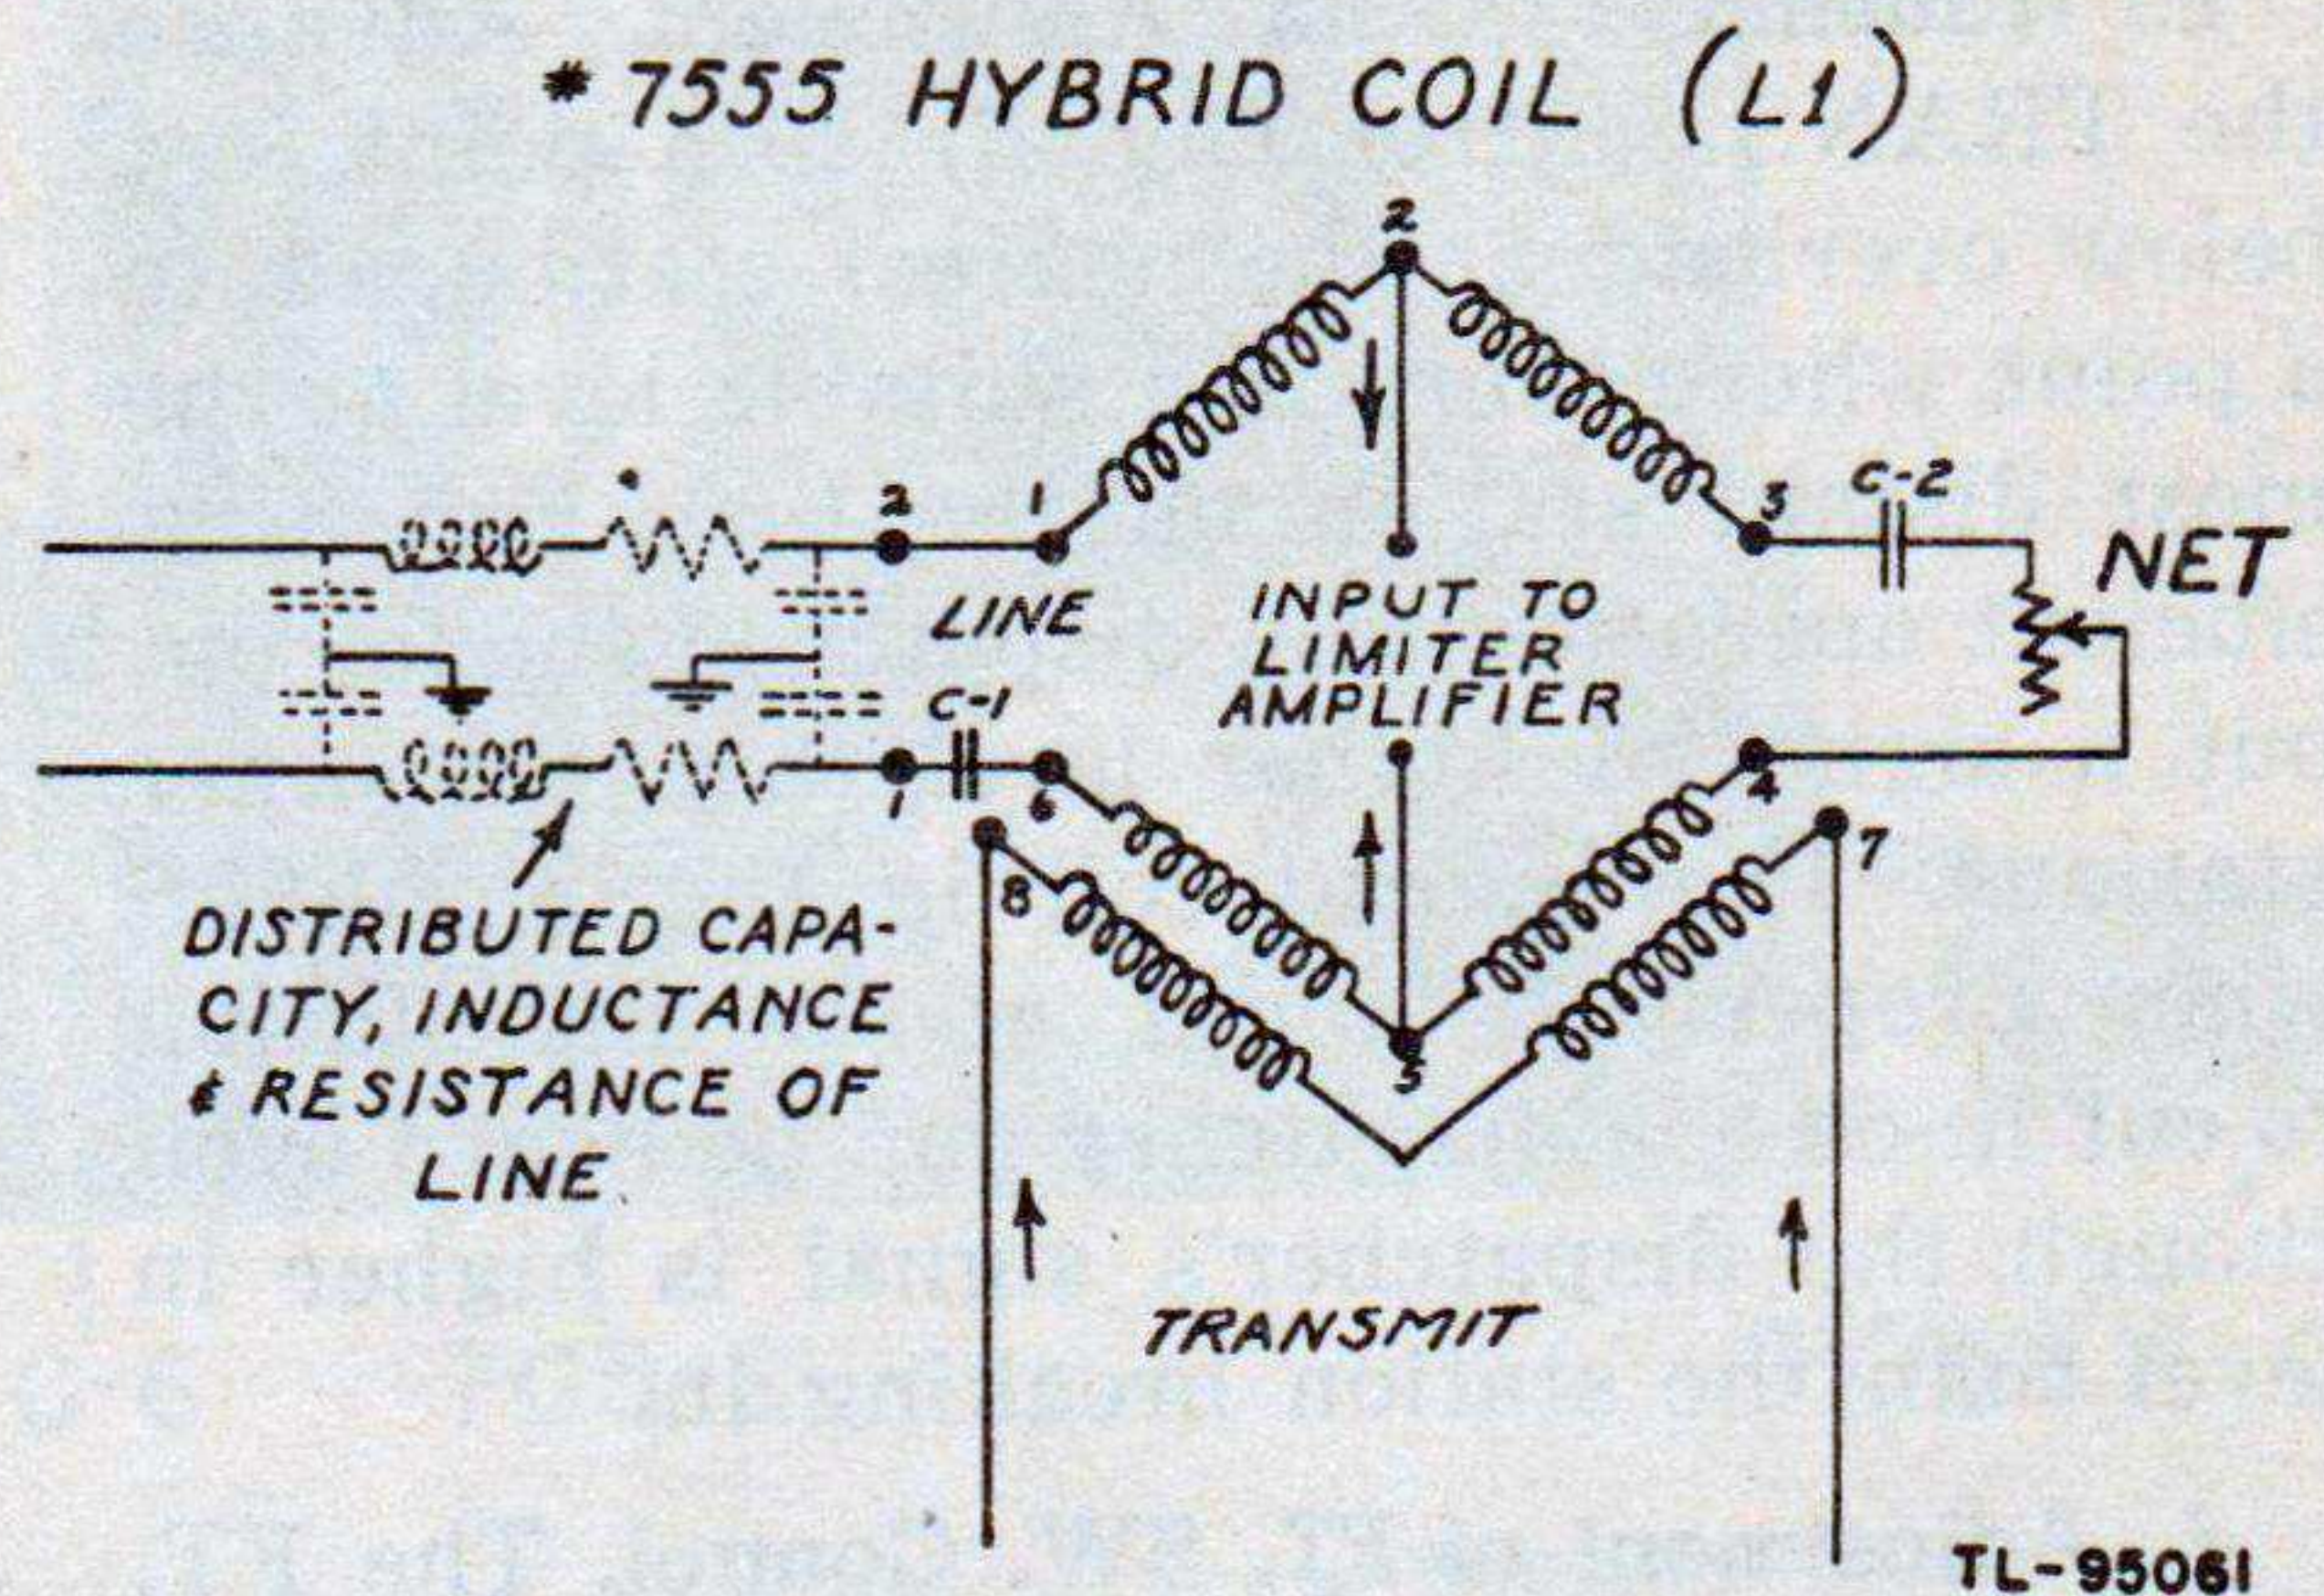

Figure 11. Hybrid coil, circuit diagram.
(1) This is made possible by the use of a hybrid coil input which electrically separates the incoming telephone line signal from the outgoing amplifier signal. This permits simultaneous two-way communication without the use of relays or other mechanical devices. By balancing the hybrid coil to the particular telephone line being used, it is possible for the dispatcher to be transmitting at a signal level + 10 db, 50 milliwatts, and simultaneously have a -30 db, 0.005 milliwatt, signal level input received and amplified to a satisfactory volume. The volume is maintained to a satisfactory level by proper adjustment of the FT. SW. control. The FT. SW. control places an adjustable resistor in shunt with the speaker. A proper setting for the FT. SW. control must be selected inasmuch as a too great attenuation of output signal level will result in insufficient output from the loudspeaker. If the FT. SW. control is set at 9.5, the amplifier signal output is completely shorted out, and no signal is heard in the loudspeaker. However, if the control is set near 5, sufficient volume is developed in the speaker to attract the dispatcher's attention.
(2) The hybrid coil, when terminated to the line and to the LINE NET control, is a bridge circuit. Figure 11 shows the actual electrical circuit of this coil when it is terminated in this manner. It can be seen that one half of the line forms part of one element of the bridge, while the other half of the line comprises a part of another element of the bridge. Thus, by means of the bridge, actual measurement to the electrical center point of the line can be made. Thus, if the
(a) The first case is when a signal from the line appears across terminals 1 and 6 of the hybrid coil (fig. 11). Assuming that the LINE NET control is adjusted to balance the line, half of the incoming signal will be dissipated in the LINE NET control. The remainder of the signal will be equally divided, half of the voltage appearing across terminals 1 and 3, and half of it appearing across terminals 4 and 6. A voltage also will appear across terminals 2 and 5. This voltage is fed to the input of the incoming amplifier.
(b) The second case is when the transmitting amplifier is being used to send a signal to the line. The signal voltage introduced at terminals 7 and 8 (fig. 11) orients the bridge 90°. This signal induces voltages in the winding between terminals 4 and 6 and also in the winding between terminals 1 and 3. If the LINE NET control is adjusted to balance the line, half of the power will again be dissipated in this control, while the remaining half will appear across terminals 1 and 6 and thus be introduced to the telephone line. Since the bridge is balanced, none of this signal voltage will appear across terminals 2 and 5, and none of it will be fed to the incoming amplifier. If the LINE NET control is not adjusted to balance the line, the unbalance will cause a voltage to appear across terminals 2 and 5. This voltage will be amplified in the incoming amplifier, and will cause feedback from the loudspeaker to the microphone, seriously interfering with the operation of the equipment. A further effect of unbalance in the hybrid circuit will be distortion in the output to the speaker and in the output to the transmission line. This means that the equipment is "singing".